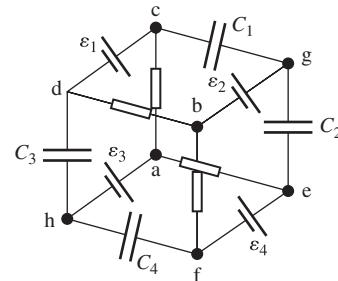

FIGURE P4.19 Circuit for Problem 4.19.
- 4.19*** Find ε_4 and the current through each resistor shown in Figure P4.19. $\varepsilon_1 = 4$ V, $\varepsilon_2 = 8$ V, $\varepsilon_3 = 12$ V, $C_1 = C_2 = C_3 = C_4 = 1$ μF . All resistors have the same resistance of 1Ω .
- 4.20** (A) Find the charge on each capacitor shown in Figure P4.19. Use the parameters in Problem 4.19.
- 4.21** (A) Find the total energy stored in capacitors shown in Figure P4.19. Use the parameters in Problem 4.19.
- 4.22** (H)* Connect nodes a and b in Figure P4.19, repeat Problem 4.19.
- 4.23** (A) Connect nodes a and b in Figure P4.19, repeat Problem 4.19.
- 4.24** (A)* Connect nodes a and b in Figure P4.19, repeat Problem 4.19.